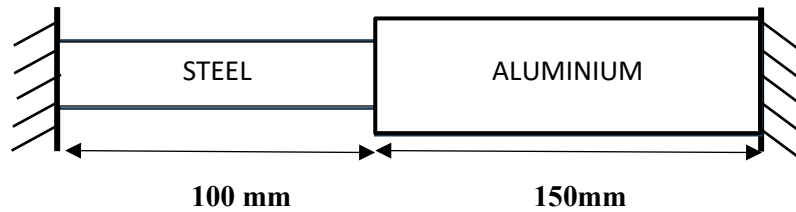

Figure 1 (c) / Rajah 1 (c)
- (c) The **Figure 1(c)** shows a composite bar rigidly fixed at both ends. Take into consideration that the temperature is increased by 60°C .